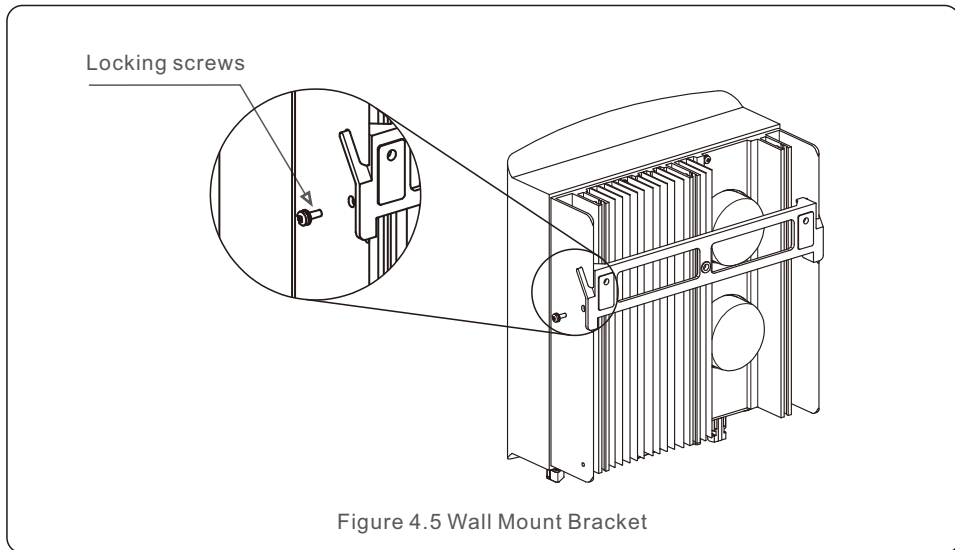

Figure 4.5 Wall Mount Bracket
- Please see Figure 4.4 and Figure 4.5 for instruction on mounting the inverter. The inverter shall be mounted vertically. The steps to mount the inverter are listed below.
4. Lift up the inverter (be careful to avoid body strain), and align the back bracket on the inverter with the convex section of the mounting bracket. Hang the inverter on the mounting bracket and make sure the inverter is secure (see Figure 4.5).